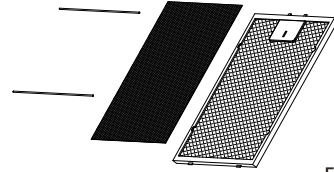

Fig.17
3. In ducting version, please make sure the carbon filter should be taken out from the aluminum filter (Fig.17).